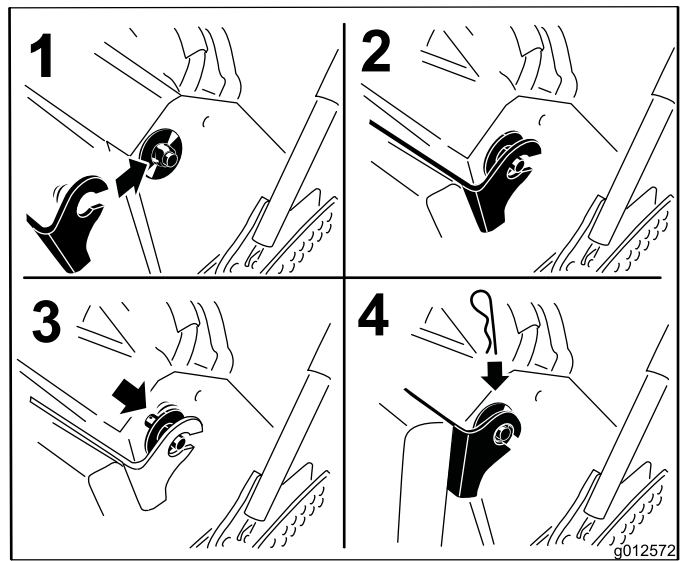

Figure 35
6. Raise the cushion and slide it onto the pins on both sides of the machine (Figure 35).
7. Slide the large washers with plastic bushings into the cushion bracket and secure them with a hairpin cotter (Figure 35).